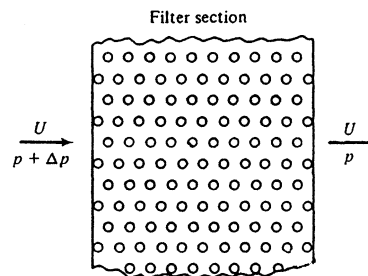

Fig. P7.61
**7.78** Apply Prob. 7.61 to a filter consisting of 300- $\mu\text{m}$ -diameter fibers packed 250 per square centimeter in the plane of Fig. P7.61. For air at 20°C and 1 atm flowing at 1.5 m/s, estimate the pressure drop if the filter is 5 cm thick.